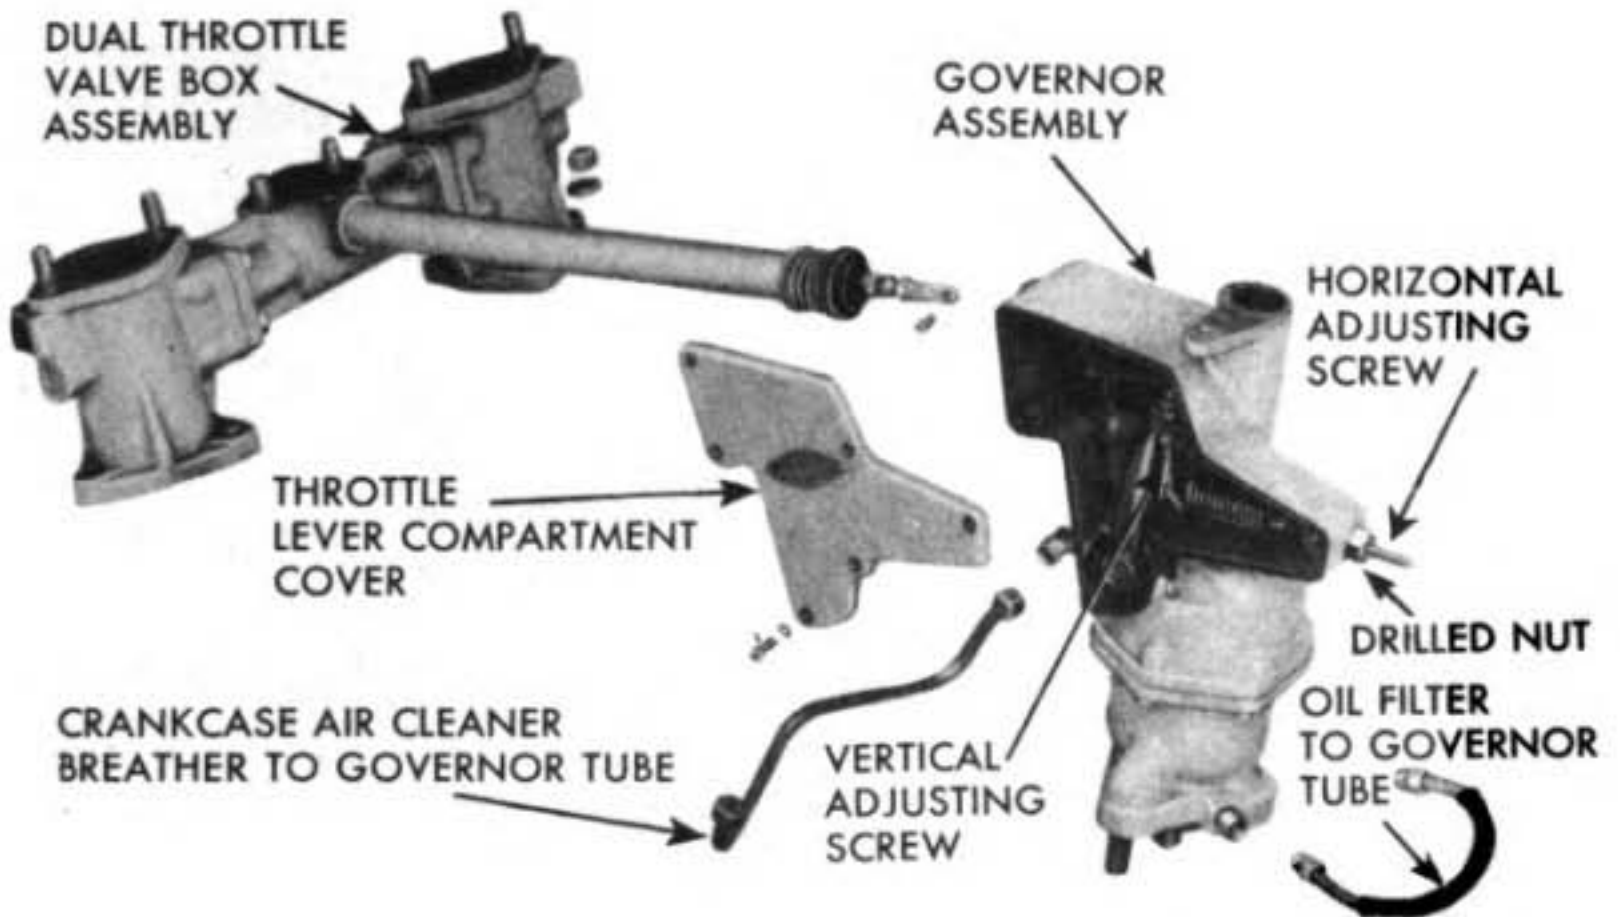
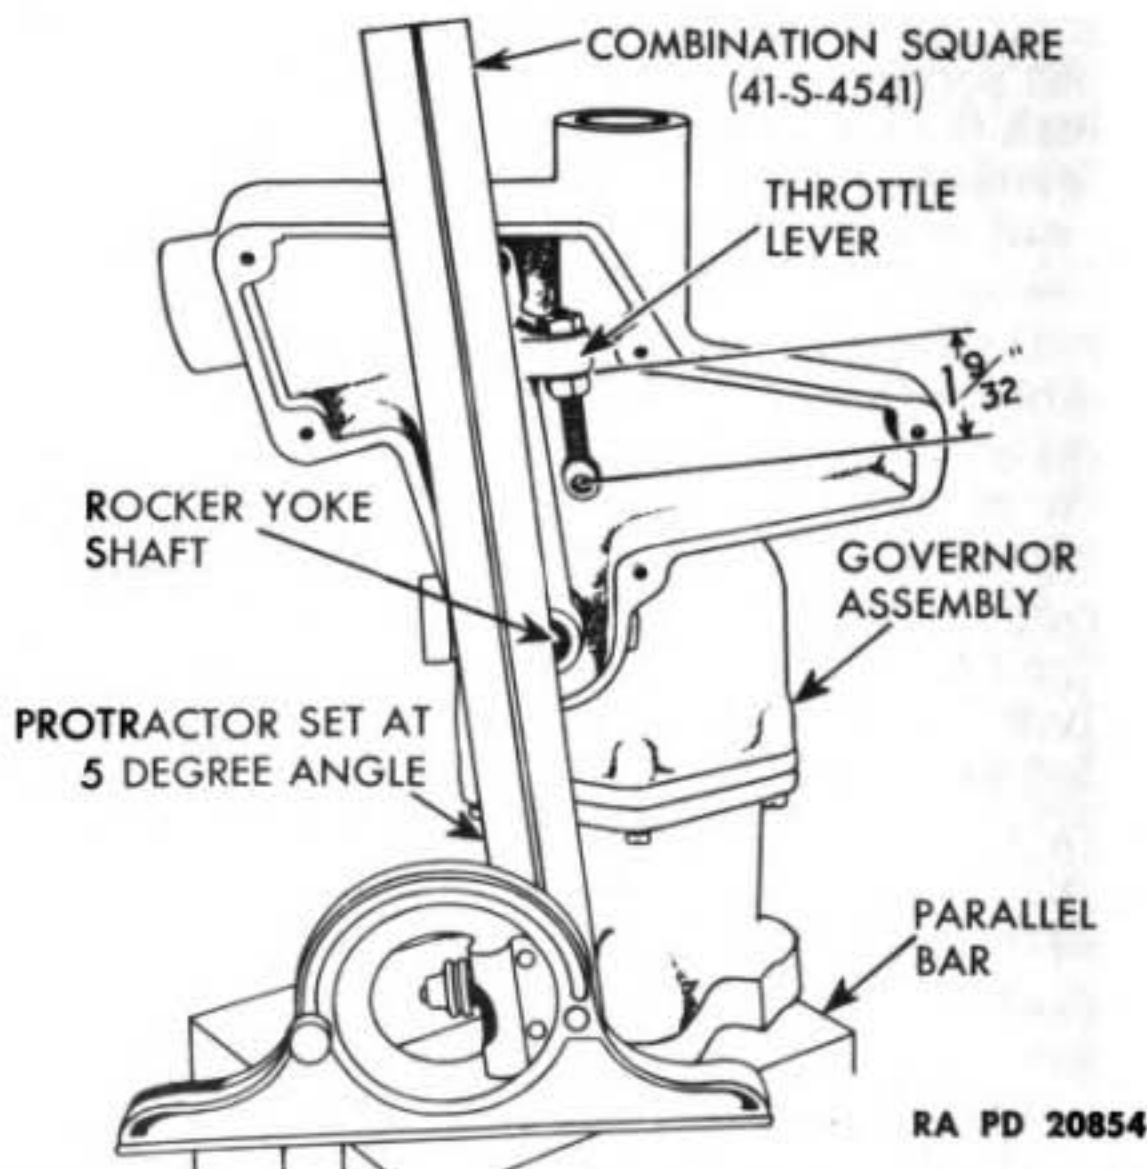

Figure 120 — Complete Governor
Figure 124 — Throttle Lever Positioned for Tapered Pin Hole
77. DESCRIPTION (fig. 120).
(6) **THROTTLE LEVER** (fig. 121). When new throttle lever and new rocker yoke shaft are installed, it is necessary to drill and ream a hole in both for a tapered pin. Have the governor assembly assembled completely except for the throttle lever, spring, and horizontal adjusting screw. Position the throttle lever on the rocker yoke shaft so that it will contact the inside wall of the lever compartment nearest the throttle connecting rod hole. To position the lever correctly, set the base on parallel bars on a surface plate. Adjust a protractor (41-S-4541) to read 5 degrees. Set the protractor on the parallel bars or surface plate, and force the throttle lever in a clockwise direction until the center line of the lever is parallel to the protractor scale (fig. 124). Insert a drill through the slotted plug tapered hole in the body, and drill a hole through the lever and shaft with a No. 25 drill. Ream with a No. 1 tapered reamer to fit tapered pin.
a. Vertical Adjusting Screw. Turn two lock nuts on vertical adjusting screw until it measures $1\frac{9}{32}$ inches from the center of the eye hole in screw to the face on throttle lever (fig. 124). Tighten lock nuts securely when adjustment is correct. Also see subparagraph c following—
b. Connecting Rod. Refer to paragraph 39 x (3).
c. Horizontal Adjusting Screw (fig. 120 and 124). This adjustment is made with engine completely assembled ready for test. Cut and remove locking wire from screws attaching throttle lever cover. Remove six screws and lock washers, and lift off throttle lever compartment cover. Start engine and idle until engine coolant temperature reaches 160°F . Open engine throttle and note top speed. This should be 3,040 to 3,050 revolutions per minute with no load. To increase engine speed, turn drilled nut on horizontal adjusting screw clockwise, and to decrease engine speed turn nut counterclockwise. Tighten lock nut on horizontal adjusting screw inside of body when adjustment is correct. The vertical adjusting screw regulates the sensitivity of the governor. If governor surges, shorten the length of vertical adjusting screw to bring screw eye farther away from rocker yoke shaft. This broadens governor regulation. Increasing the length of vertical adjusting screw (by moving the spring eye closer to the rocker yoke shaft) increases the sensitivity of the governor.